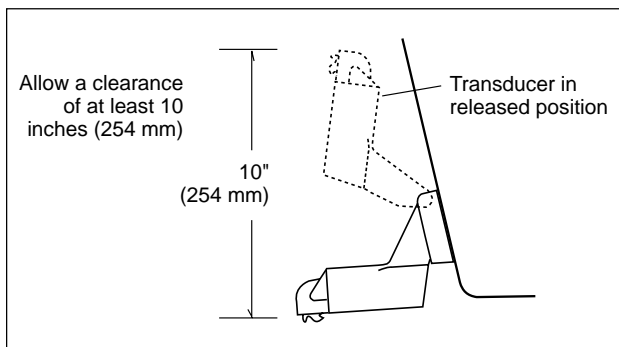

Fig. 2-4
- The bracket has a quick-release mechanism. This prevents damage by allowing the transducer to flip up if it hits any debris or the bottom. See Fig. 2-4. Allow enough clearance above the transducer so that it can swing upward completely. This is about 10" (254 mm) measured from the bottom of the transom.